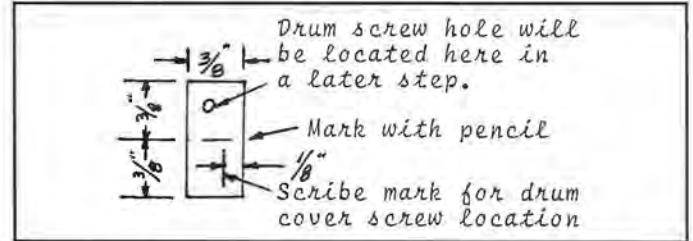

Figure 5.
*Step 10.* Cut eight pieces of brass 3/8" x 3/4" x .050". (See Figure 5.)
*Step 14.* Place the drum cover into the drum at the index marks and at the correct depth. Rotate the drum cover about 1/16" to offset and prevent a conflict with the drum cover screws. Scribe the brackets in the area shown through the drum holes (see Figure 5). Remove all the brackets, and drill and tap the brackets 2-56 for the drum screws.